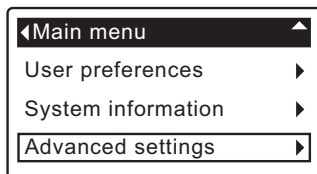

FIG. 76
1. From any of the rolling status screens, press the SELECT (O) button to display the **Main menu**.
2. Press the DOWN (▼) button to scroll through the menu options until **Advanced settings** is highlighted (See Figure 76).